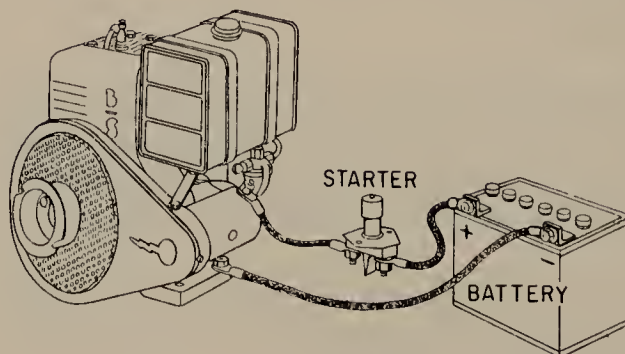

FIGURE 13.2 Belt-driven starter mounted on engine, and connections between the starter and the battery. (Briggs and Stratton Corporation.)
13.1 12-Volt Starter. There are two general types of 12-volt small-engine starters. One uses a Bendix drive, the other a belt drive. Figure 13.1 shows a disassembled view of a Bendix drive starter. Figure 13.2 shows a belt-drive starter mounted on an engine. The belt-drive starter is used with a belt clutch which can drive only one way, from the starter to the engine. When the engine starts and attempts to drive the starter, the clutch disengages.